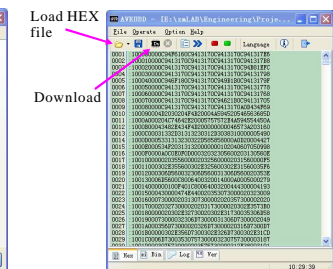

Fig. 13
- 6) Click on the Open File icon to load into avrubd the new firmware you have downloaded. Click on the download icon to start downloading (see Fig. 13). You should see avrubd is talking to oscilloscope by sending connection key continuously.